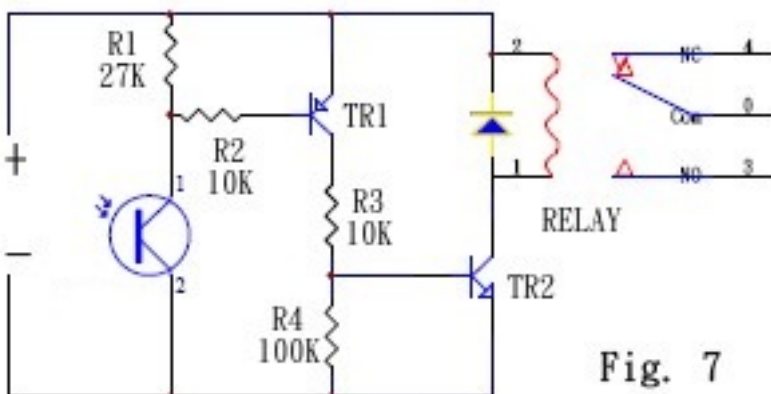

Fig. 7
Fig 7. The relay coil is energised when light > Slux. In this case the quiescent current is low in dark conditions because TR1 is switched OFF at the same time as TR2 and the relay coil. The customer can control the current to the application and the quiescent current by choosing a normally open (NO) or normally closed (NC) relay.